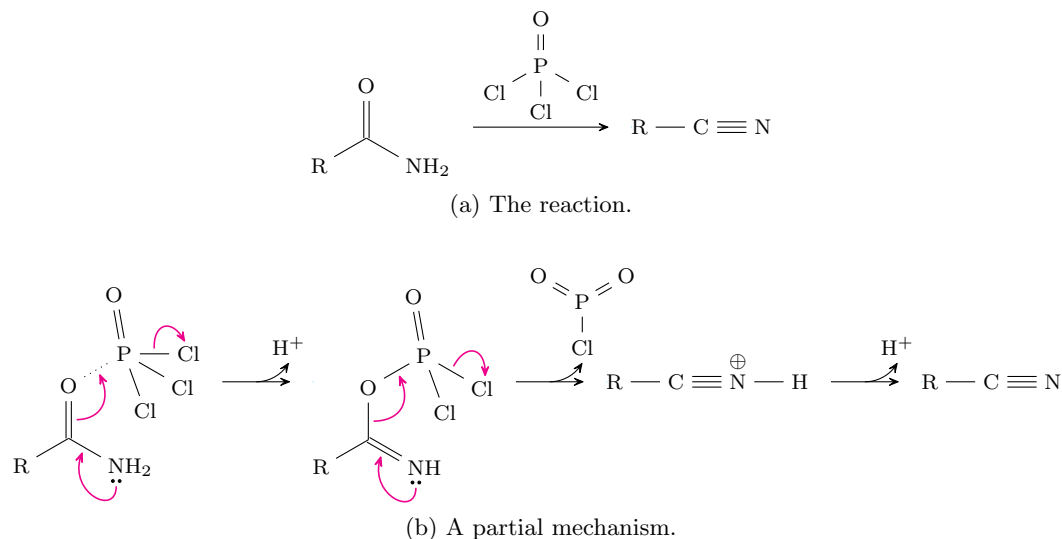

Figure 4.56: Nitrile synthesis: Dehydration of amides.
- We add POCl_3 (the triacid chloride of phosphorous acid) to our amide (Figure 4.56).